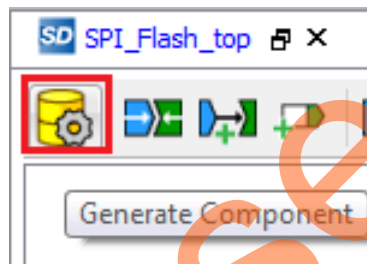

Figure 14 • Generate Component
- From the **SPI_Flash_top** tab, click **Generate Component**, as shown in Figure 14.